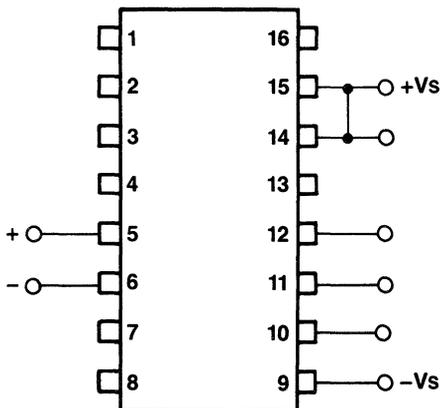

Figure 21. Internal Logic Reference
- Figure 21 illustrates the use of internal logic reference. Lead 13 is not connected using this option. Positive supply voltages greater than 7.5 V are required.